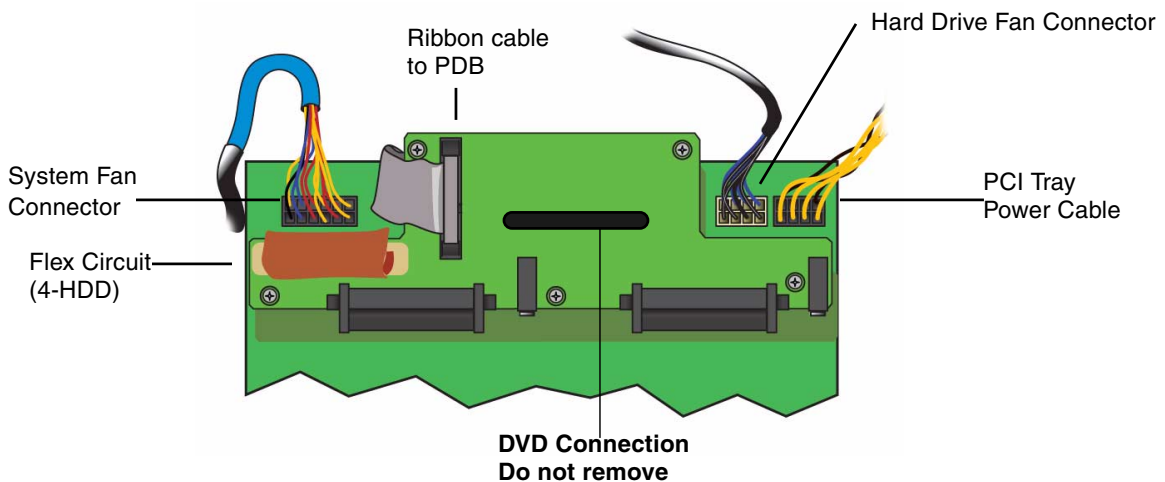

FIGURE 3-24 Populated Mass Storage Assembly Connectors
FIGURE 3-24 shows how the five key connections look when the cables are plugged in
3. Disconnect the following cables from the mass storage assembly and power distribution board (FIGURE 3-24):
5. **Connect the following cables to the mass storage assembly** (FIGURE 3-24):